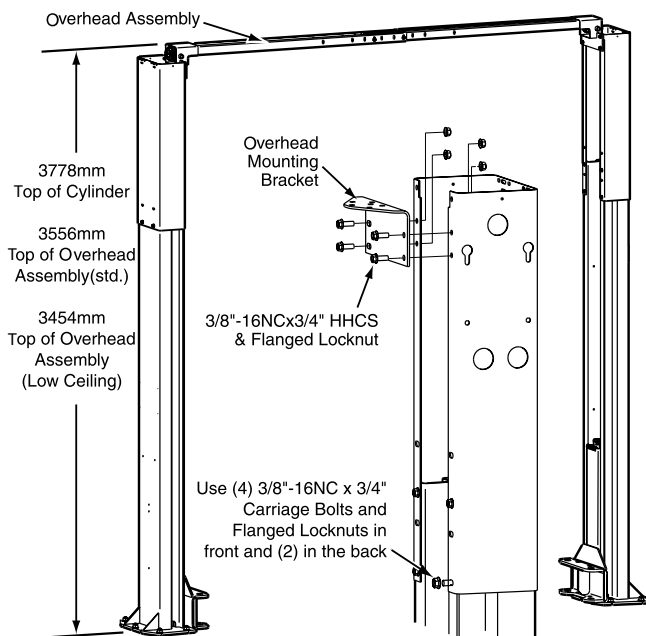

Fig. 2
See Fig. 2 for overall lift height of each specific lift model. Add 25mm to overall height to lowest obstruction.
Before standing columns upright, install the column extensions using (12) 3/8" -16NC x 3/4" Carriage HHCS and Flanged Locknuts, Fig. 2 and Fig. 3.
Overhead Mounting Bracket: Install Mounting Brackets to column extensions, Fig. 2.